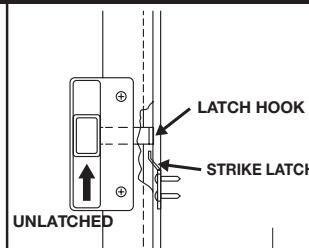

Fig. 7
B. Place strike latch at frame jamb. Align top of strike latch slightly below latch hook as shown in (**Fig. 7**). Mark screw hole locations.